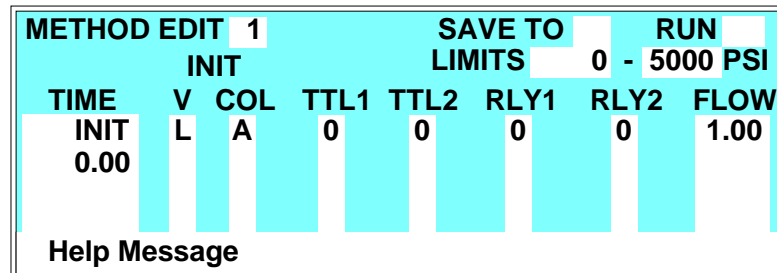

Figure 3-3. Method Screen: Creating a New Method
4. In the **EDIT** field, enter the number of the method to be created. You can enter the number of an unused method or the number of an existing method that you want to edit and save as a new method. If you enter the number of an unused method, the screen will look similar to the example screen in Figure 3-3.
6. Each method starts out with two timed steps (see Figure 3-3). The first step is an initial conditions step with **INIT** in the **TIME** column. The second step is a time zero step with **0.00** in the **TIME** column. The parameters in each of these first two steps can be changed but the steps cannot be deleted. Enter the parameters for these two steps as required for the method.